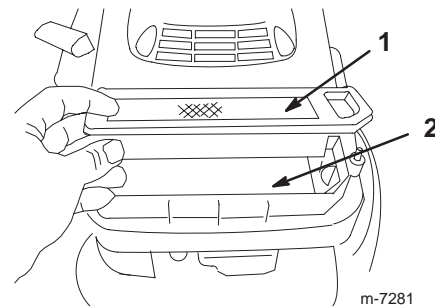

Figure 19
5. Remove the paper air filter and discard it as required (Fig. 19).